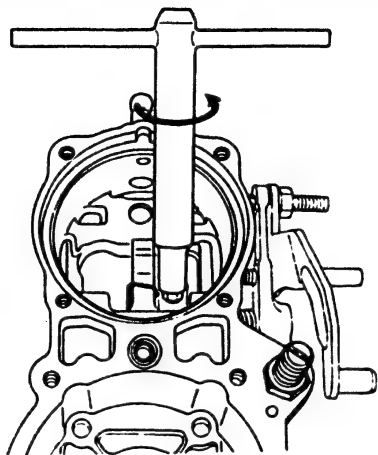

Fig. 43 Removing the screw
1. Using a wrench (SW 7 mm) remove the screw (1/17) securing the stopping-lever. (Fig. 43)